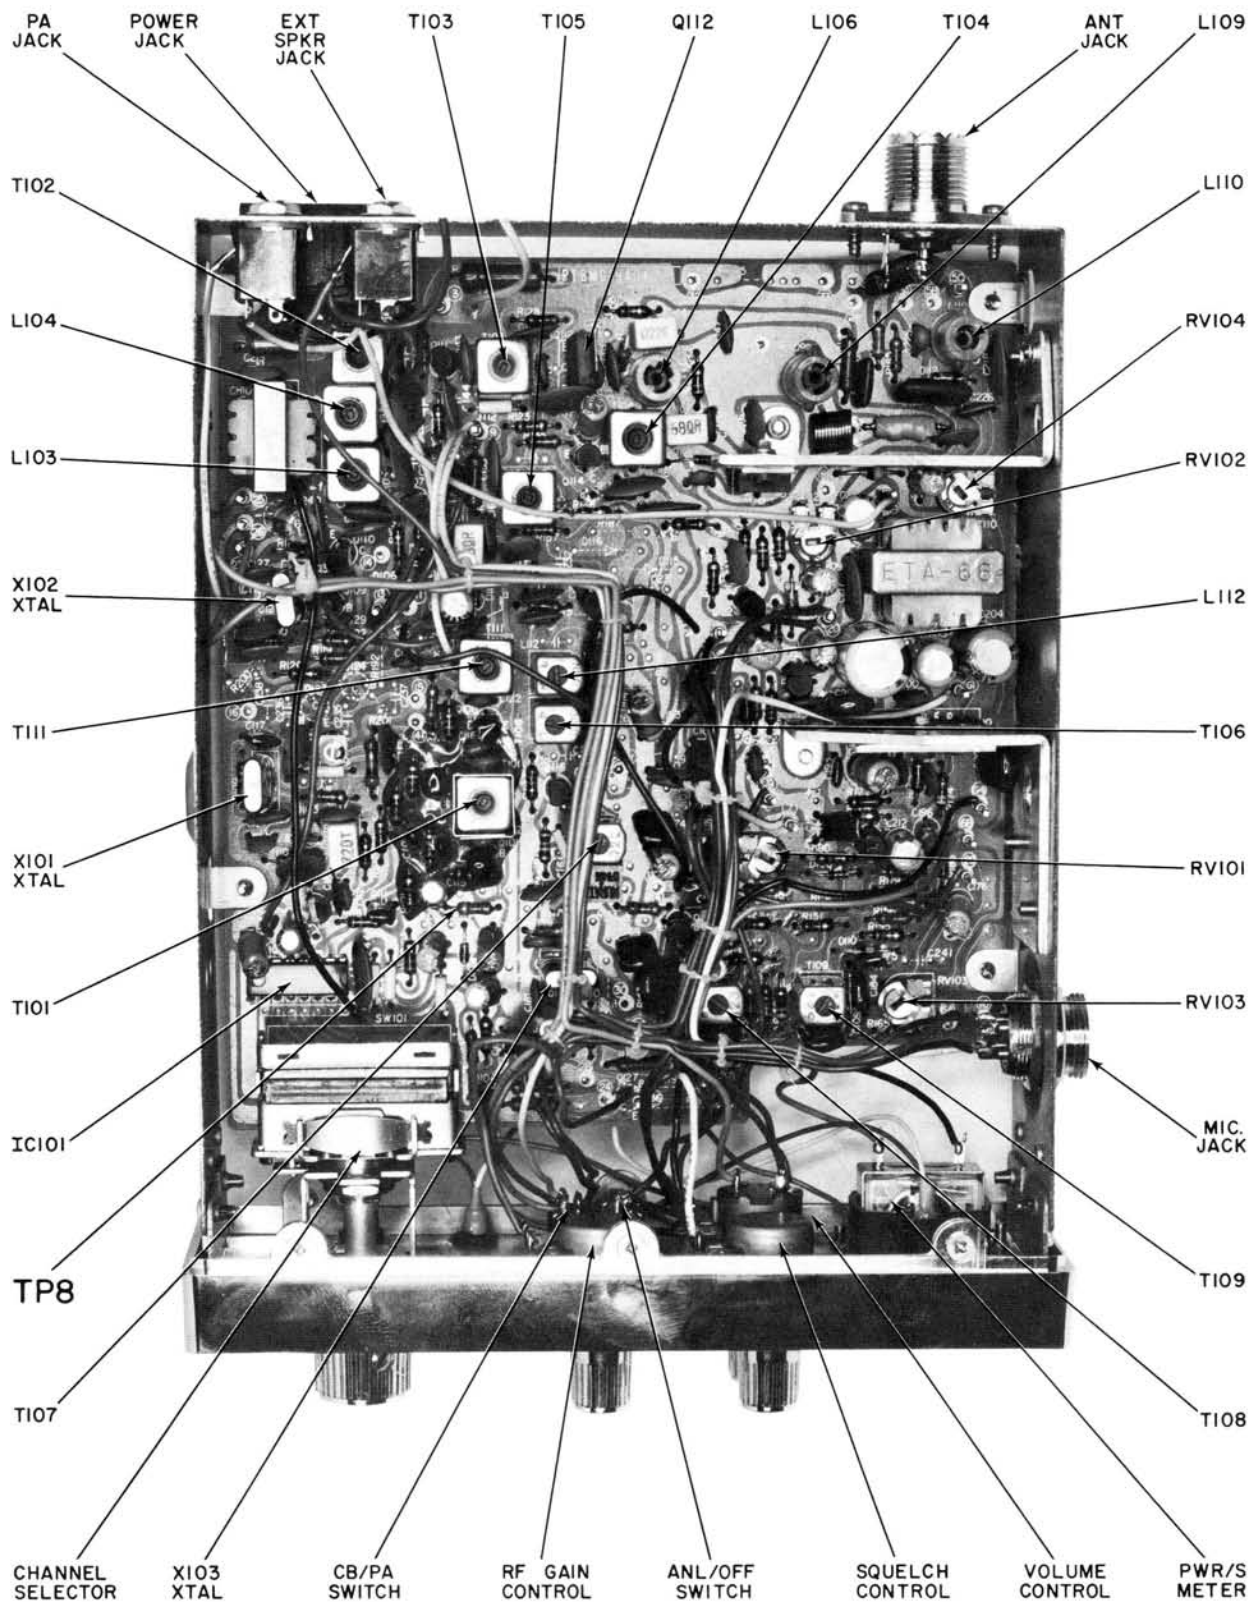
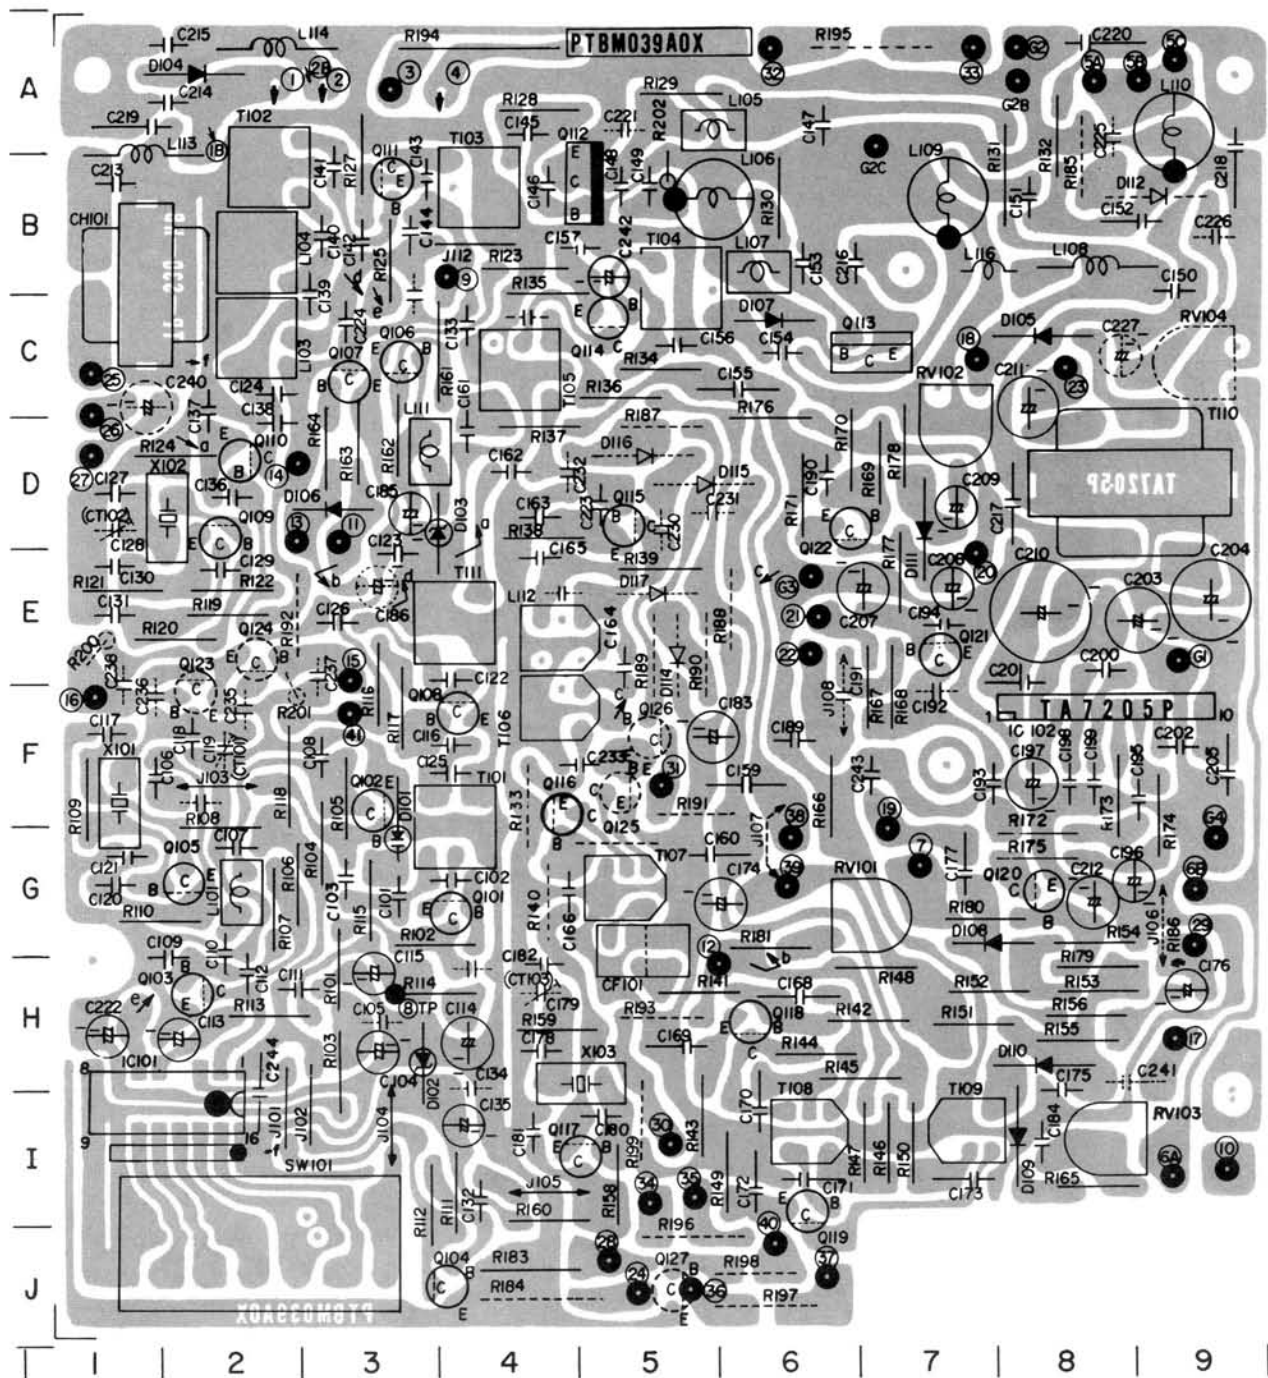

Figure 8 — Bottom (Component) View of Model 14T300
Figure 10 – Main Printed Circuit Board – 14T300 & 14T301
Figure 10 of the printed circuit board incorporate map grid coordinates at the sides of the illustration. These coordinates are keyed to corresponding key numbers in the replacement parts list, for instant location of smaller parts. Major components, not shown in Figure 10 are shown in views Figures 8 and 9. Exploded views identify all mechanical parts by means of balloon callouts. These balloons key to corresponding balloons shown in the mechanical parts list section.
- Connect DC Voltmeter, set to 5 V range, between ground and R114 high side at TP8, see Figure 8. (Meter input impedance should be  $20\text{k}\ \text{ohm/volt}$  or higher).
- c. Refer to Figure 8 and adjust T111 (Buffer 3, Q108 output) and T104, T105, L112, T106, T108 and T109, in this order, for maximum audio output across the 8 ohm dummy speaker load. Keep reducing the generator input signal as adjustment is made to avoid inaccuracy due to AGC action. Make final adjustments at low input level. Repeat adjustment to achieve maximum alignment accuracy at low level, signal level at 1 uV or less.
- c. Adjust RV-101, see Figure 8, for maximum audio output on VTVM and scope connected across 8 ohm dummy speaker load. Note the output level. Slowly turn RV101 to decrease the output level by 60 dB, this will be indicated by a rapid cut-off of the audio output signal.
- b. Adjust RV103, see Figure 8, so that RF meter pointer reads "9" on the meter.
NOTE:—Location column is for grid coordinates shown on printed circuit board in Figure 10.